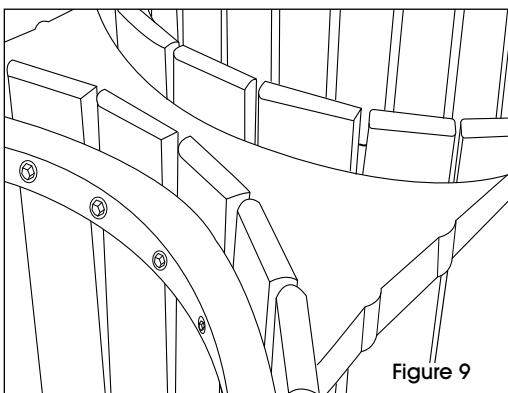

Figure 9
13. Slide the slats back into position and move the receptacles together to hold the slats firmly. Attach the connector to the second receptacle, repeating step 9, starting with the upper ring. (See Figure 9)